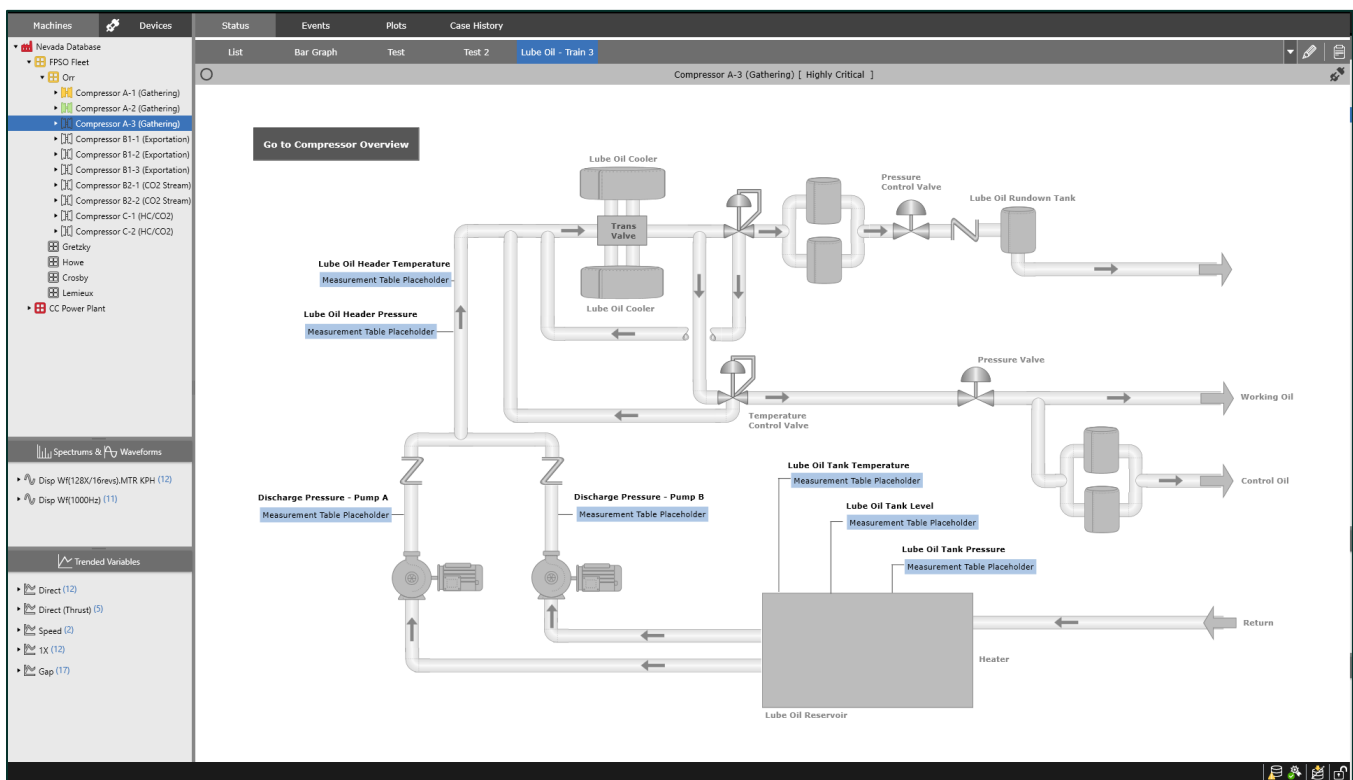

Figure 37: Pasted Lube Oil System Content, with point placeholders
- As Compressor A-3 does not have corresponding process tag measurements, the measurement point tables from Compressor A-1 are replaced with measurement placeholder tables (Figure 37).